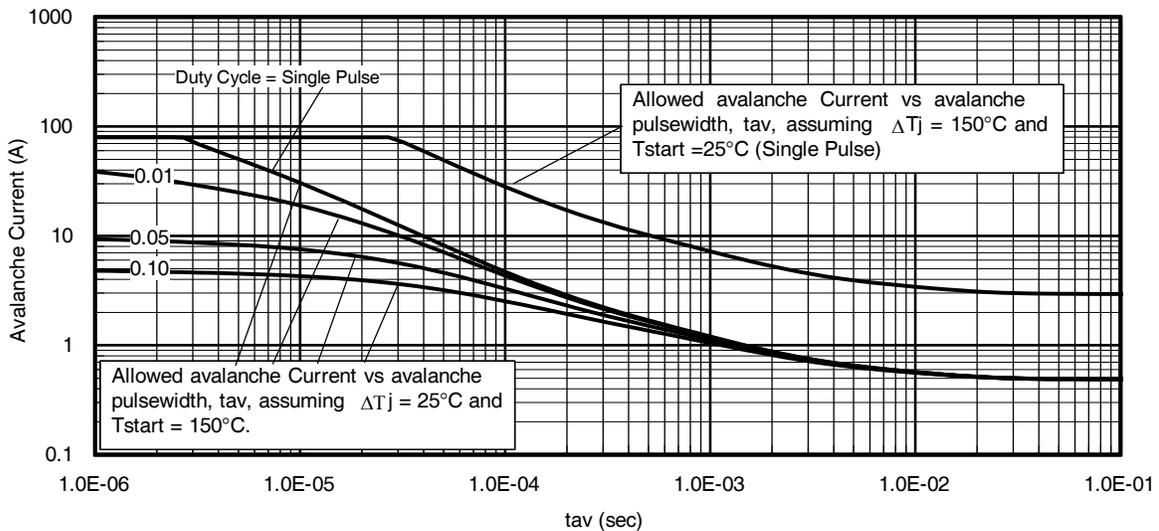

Fig 14. Typical Avalanche Current Vs. Pulse width
**Notes on Repetitive Avalanche Curves , Figures 14, 15: